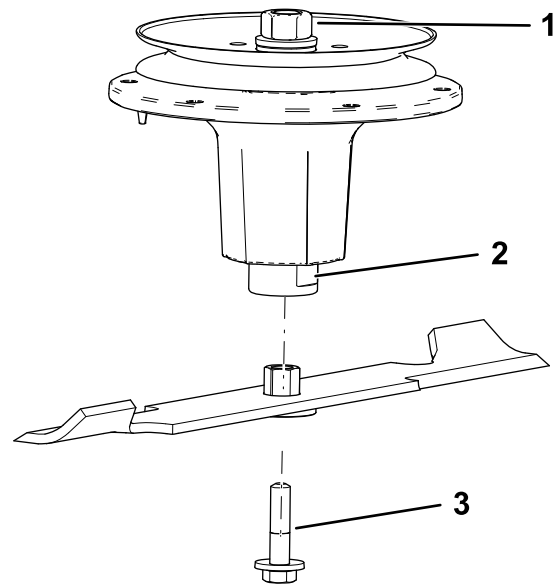

Figure 76
2. Install the bushing/blade assembly into the spindle shaft (Figure 76).